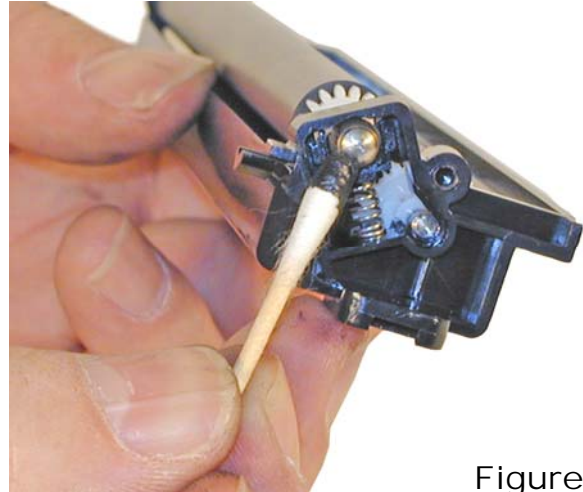

Figure 53
46) Place a small amount of conductive grease on the "bullet" shaped end of the PCR. See **Figure 53**